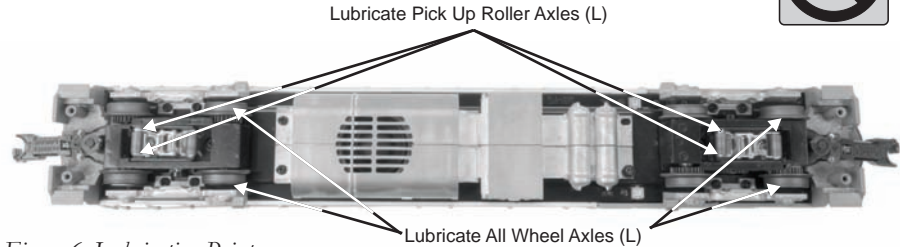

Figure 6: Lubrication Points
1. To access the gear box, remove the cab from the chassis by unscrewing the body mount screws as seen in Figure 6 and lifting the cab from the chassis.
2. Once the cab is removed, remove the trucks by unscrewing the black Phillips motor mount screw located on the underside of the drive trucks (see Fig. 6).